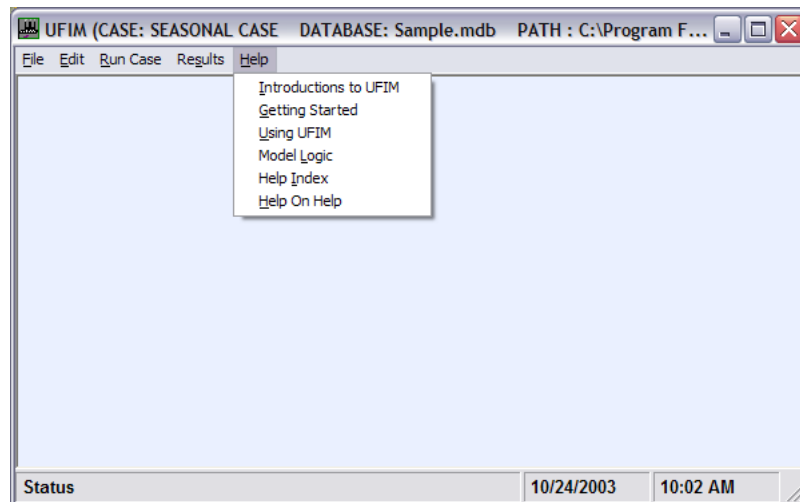

Figure 2-14: Help Menu Options
The *Help* menu has six items: (1) Introduction to UFIM, (2) Getting Started, (3) Using UFIM, (4) Model Logic, (5) Help Index, and (6) Help on Help, Figure 2-14. This manual and the *Basic Concepts* volume will be added soon.